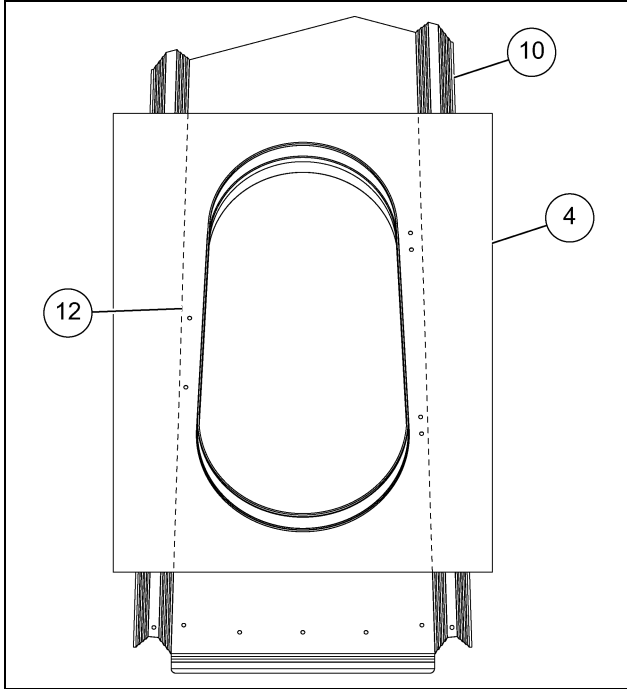

Figure 1 Marking the Add-On Manway Panel
- Place the add-on manway panel (4) on the existing roof panel (10). Using the edges of the roof ribs as a template, mark the add-on manway panel (4) location. (See Figure 1.)